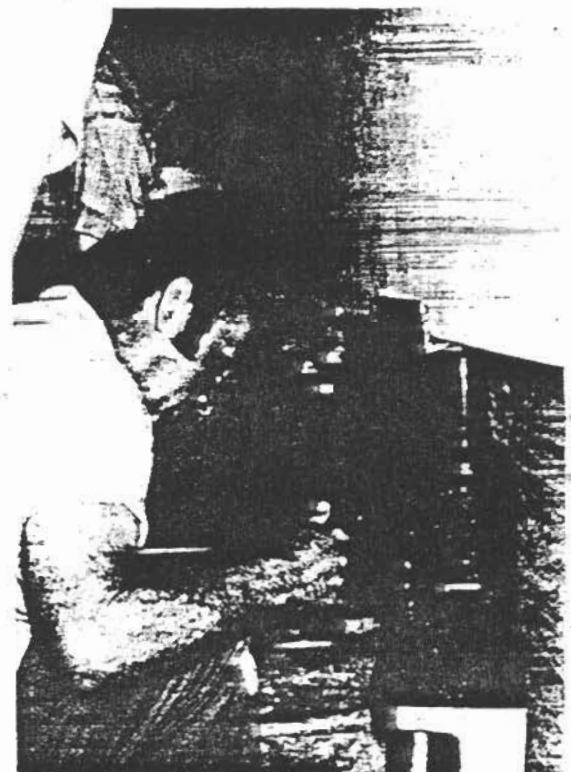

FIG. 11
1. Place jacks (2) (one (1) jack directly beneath each platform stem) adjacent to the cross beam (Fig. 11).